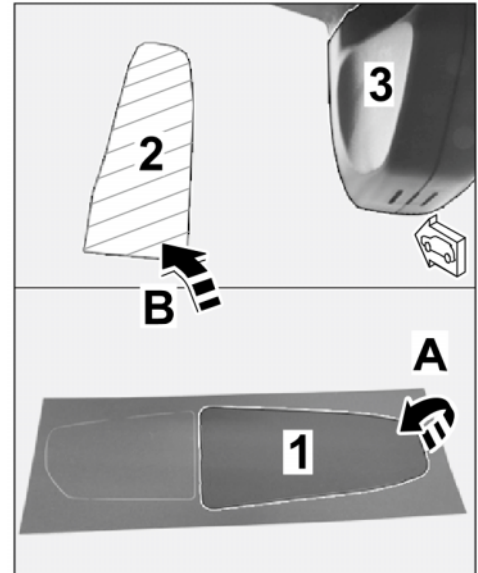

Figure 8
2.2.1 Pull 3M privacy film off the backing sheet. ⇒ *Figure 8-A-*
2.2.2 Position 3M privacy film on marked bonding surface on windshield. ⇒ *Figure 8-B-*